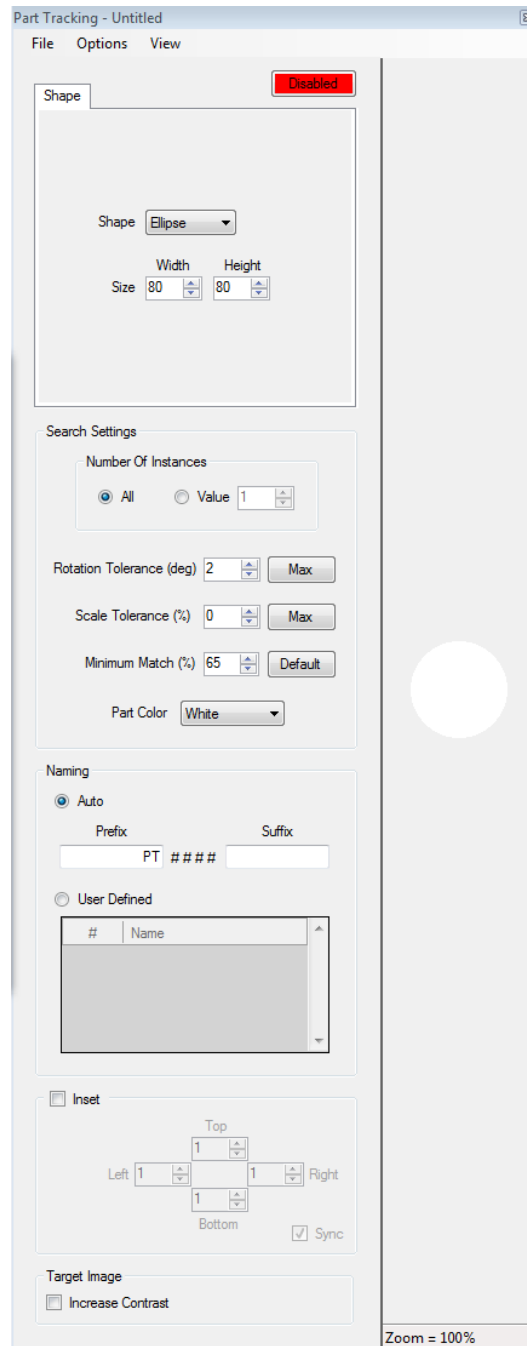

Figure 2.38 Part Tracking control window in Surface Measurement
1. Enable Part Tracking in either the Part Tracking Window (**Figure 2.38**) or Camera Window context menu (**Figure 2.14**).